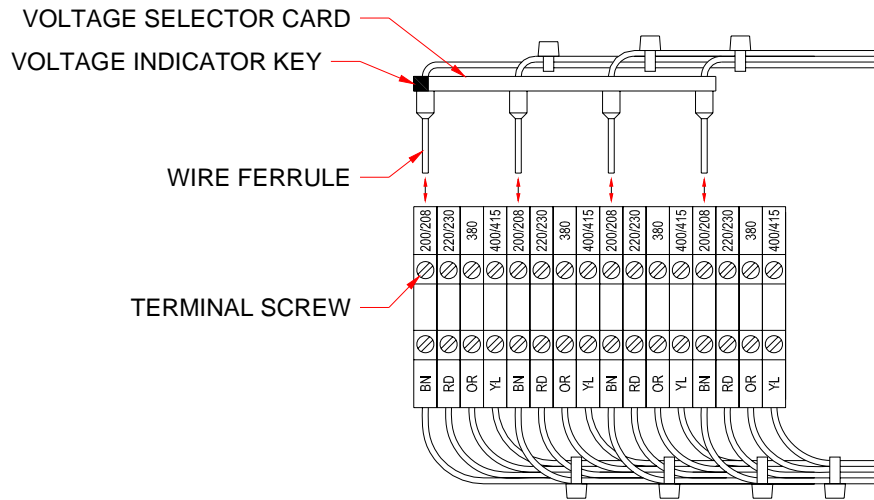

Figure 7-2. Voltage Change Detail
2. Turn the front panel line power switch OFF (O).
5. Observe the 4 voltage-selection wires held by the clear plastic wiring guide. See Figure 7-2.